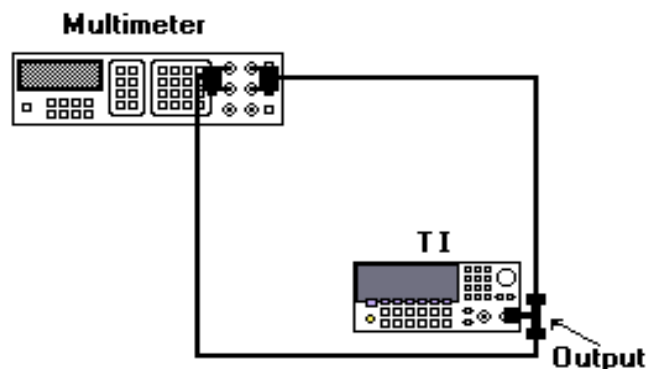

Figure 2. Output impedance adjustment hook-up
- (6) Set the multimeter to display 5 ½ digits and dc volts measurement.
- (7) With **Setup # 6** highlighted press the **BEGIN** key then using the numerical keypad, adjust the displayed **Meas'd Voltage** to match the multimeter dc volt indication, then press the **ENTER VALUE** key.
- (8) Disconnect cable from the rear panel **Modulation In** and with **Setup # 7** highlighted press the **BEGIN** key.
- (9) Set the multimeter to measure offset-compensated, four-wire ohms, with 100 NPLC integration. Connect equipment as shown in figure 2.